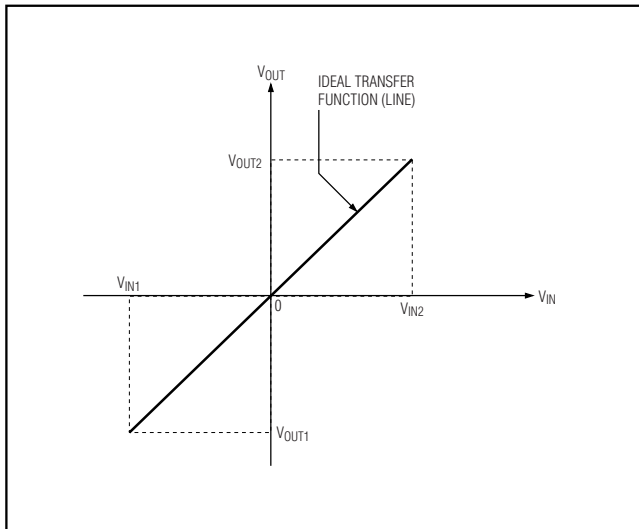
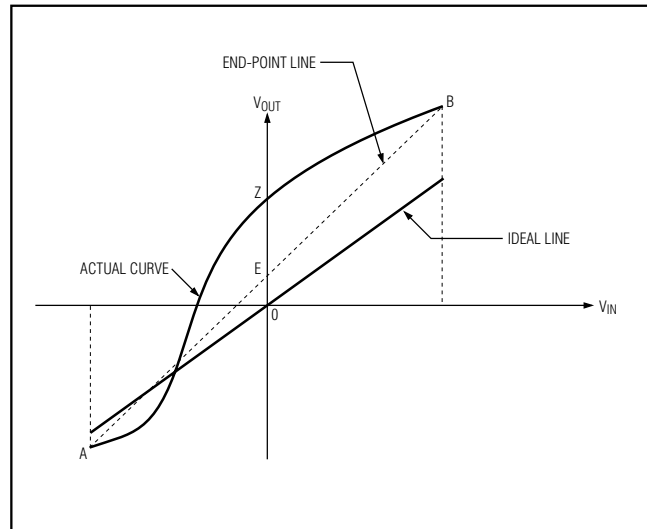
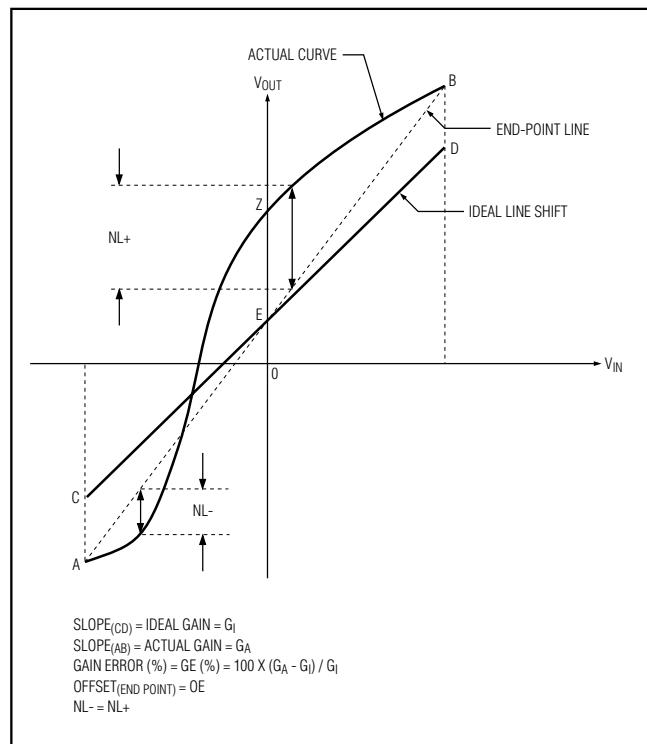

Figure 3. Transfer Function of an Ideal Instrumentation Amplifier (Straight Line Passing Through the Origin)
Figure 4. Typical Transfer Function for a Real Instrumentation Amplifier
Figure 5. Typical Transfer Function for a Real Instrumentation Amplifier (Ideal Line (CD) Is Shifted by the End-Points Offset (OE) to Visualize Gain Error)
In order to understand these terms, we must look at the transfer function of an ideal instrumentation amplifier. As expected, this must be a straight line passing through origin with a slope equal to the ideal gain (Figure 3). If the ideal gain is equal to 10 and the extreme applied input voltages are -100mV and +100mV, then the value of the output voltages are -1V and +1V, respectively. Note that the line passes through the origin and therefore a zero input voltage gives a zero output response.
The transfer function of a real instrumentation amplifier is quite different from the ideal line pictured in Figure 3. Rather, it is a curve such as the one indicated as the typical curve in Figure 4, connecting end points A and B.
Second, even if there was no nonlinearity error, i.e., the actual curve in Figure 4 was a straight line connecting end points A and B, there exists an obvious slope deviation from that of an ideal gain slope (drawn as the "ideal" line in Figure 4). This rotational error (delta slope) is a measure of how different the actual gain (G_A) is from the expected ideal gain (G_I) and is called gain error (GE) (see the equation below).
Figure 5 is the same as Figure 4, but the ideal line (CD) is shifted up to pass through point E (the Y intercept of end-points line AB).
The rotational nature of gain error, and the fact that it is pivoted around point E in Figure 5, shows that gain-error contribution to the total output voltage error is directly proportional to the input voltage. At zero input voltage, the error contribution of gain error is zero, i.e., the total deviation from the origin (the expected zero output value) is only due to end-points OE and nonlinearity error at zero value of input (segment EZ on the vertical axis).
The nonlinearity is the maximum deviation from a straight line, and the end-point nonlinearity is the deviation from the end-point line. As shown in Figure 5, it is likely that two nonlinearities are encountered, one positive and the other a negative nonlinearity error, shown as NL+ and NL- in Figure 5.